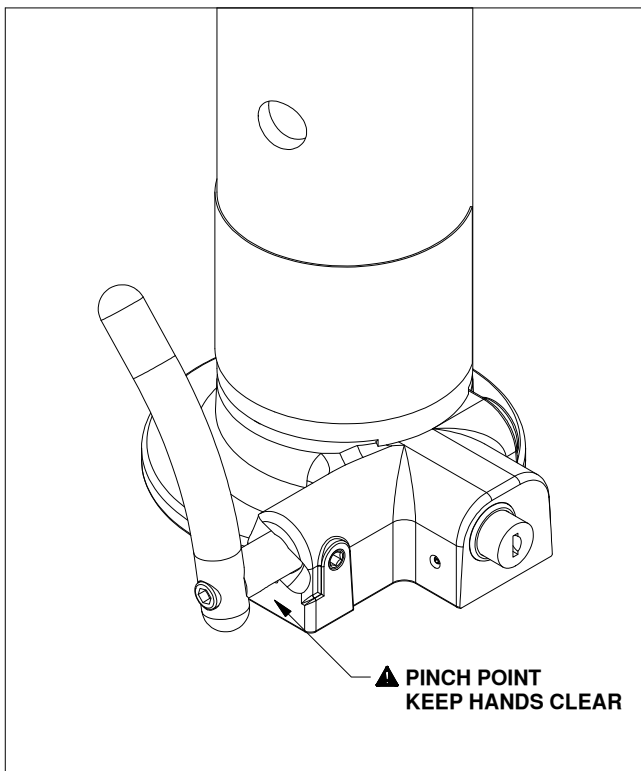
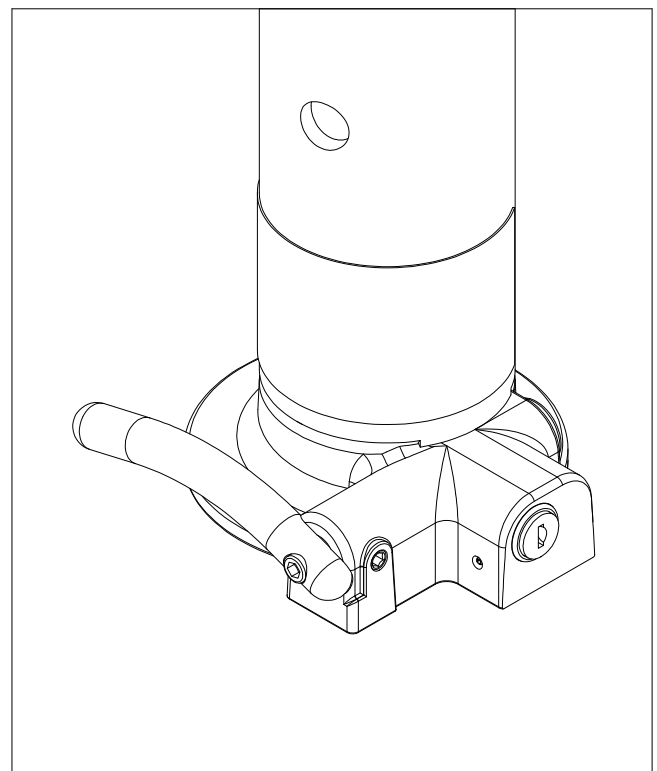

FIGURE B1, Coupler open position.
FIGURE B2, Coupler closed & locked position.
1. The coupler is locked when the face of the lock assembly is even with body of the coupler, see figure B2. To unlock, insert key and rotate 1/4 turn. When disengaged, the lock assembly will "pop" out so that the face of the lock assembly sticks out from the body of the coupler by about 1/2", see figure B1.
2. Set the coupler to the "open" position. To do this, pull the handle straight out from the coupler about 1", rotate the handle clockwise until it stops, then release. The handle should stay in this near vertical position with about 1" between it and the coupler. See figure B1.
4. Slowly lower the trailer onto the ball. When the ball is fully engaged in the coupler, the handle will automatically rotate counter clockwise and retract firmly against the coupler housing. This is referred to as the "closed" position. See figure B2.
2. Set the coupler to the "open" position. To do this, pull the handle straight out from the coupler about 1", rotate the handle clockwise until it stops, then release. The handle should stay in this near vertical position, with about 1" between it and the coupler. See figure B1.